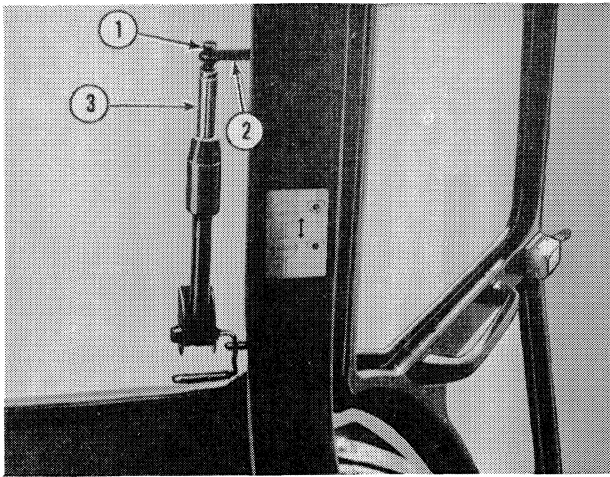

Figure 8
Open the windows. Remove the window prop lock pins and the props from the cab pivot pins (2), Figure 8. Remove the window from the wrap around hinge.